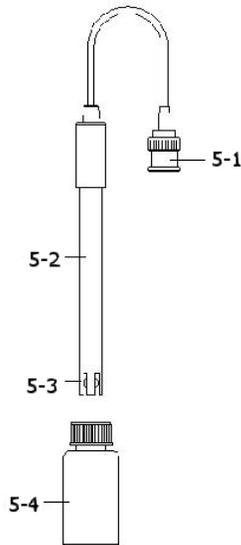

Fig. 2
" Probe Plug " (5-1, Fig. 2) into the " PH Socket/BNC
- 4) Hold the " Electrode Handle " (5-2, Fig. 2) by hand
and let the " Sensing head " (5-3, Fig. 2) immersed
When not use the Electrode, it should immerse the " Electrode sensing head " (5-3, Fig. 2) into the " Protection bottle " (5-4, Fig. 2)
- 1) Prepare the pH Electrode (optional), install the " Probe Plug " (5-1, Fig. 2) into the " PH Socket/BNC Socket " (3-16, Fig. 1).
- 4) Hold the " Electrode Handle " (5-2, Fig. 2) by hand and let the " Sensing head " (5-3, Fig. 2) immersed wholly into the measured solution and little shake the probe. Display will show the PH value.